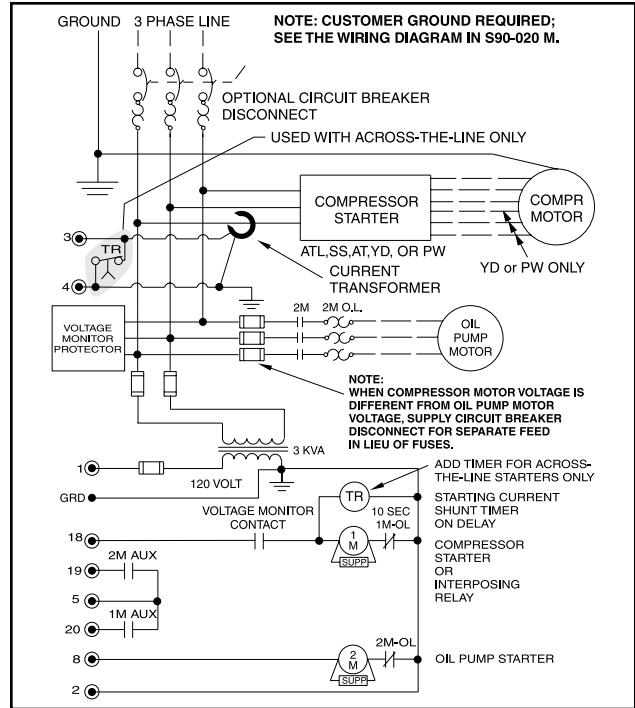

Figure 13 - Starter Wiring Diagram
When starting at full voltage or across-the-line, a shunting device must be installed or the Analog I/O board in the Quantum™HD panel may be severely damaged at start-up. See Figure 13.
4. One normally open compressor motor starter auxiliary contact should be supplied and wired as shown on the starter package wiring diagram. In addition, the compressor starter coil and the CPT secondaries should be wired as shown on the starter package wiring diagram, Figure 13.